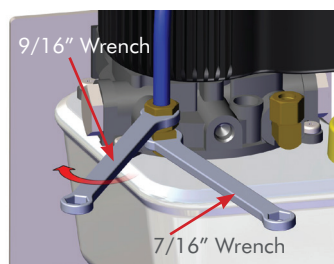

Figure 3
3. Tighten both compression fitting nuts with a 9/16" wrench while simultaneously holding their respective bases with a 7/16" wrench. (**FIG. 3**)